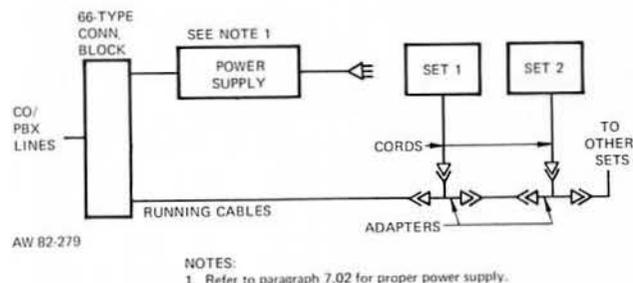

Figure 2: Optional Arrangements for 3-Line Telephones
**7.02** A different power supply is recommended for each arrangement. An ITT 41-101 Power Transformer (9 VAC output) is recommended for the first arrangement. A commercial power supply with outputs of 9 VDC, 10 VAC, and a signaling voltage (Lorain T-16A or equivalent) is recommended for the second arrangement. A key system type power supply is recommended for the third arrangement, which uses a 307A rotary, dial-selective intercom circuit (or other dial-selective intercom circuit) equipped for Tel-Touch operation. The power requirements for a 307A circuit are -24 VDC, 10 VAC, and if ringing voltage is required, 105 VAC, 30 Hz. (See Figure 2.)